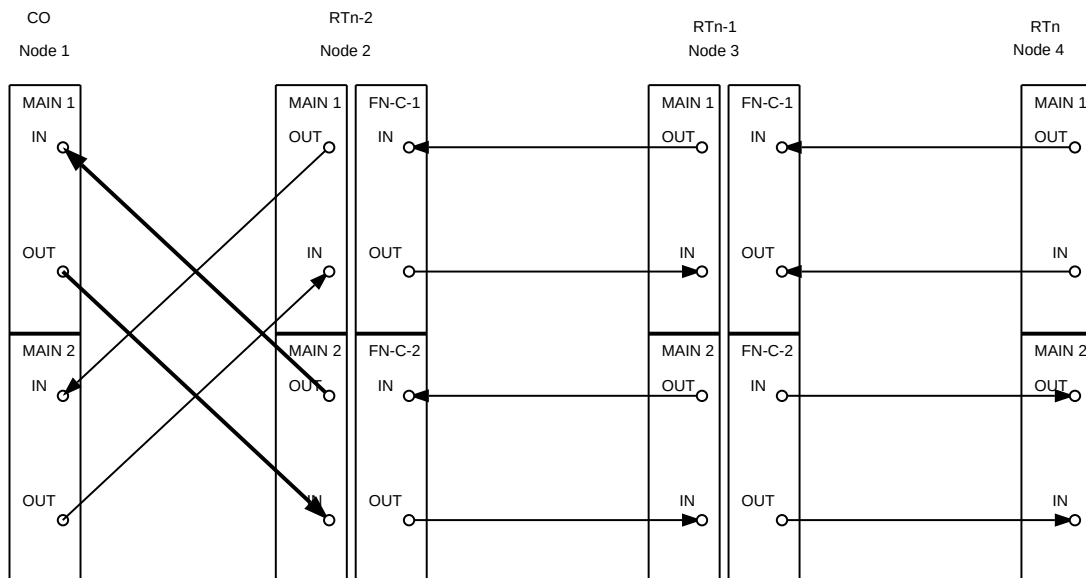

Figure 17. DDM-2000 OC-3 Drop or Add/Drop Network to Ring Upgrade
28. The example 4-node configuration now looks like that shown in Figure 17. Steps completed between the last RT and next to last RT are repeated as each span is converted to a ring configuration.